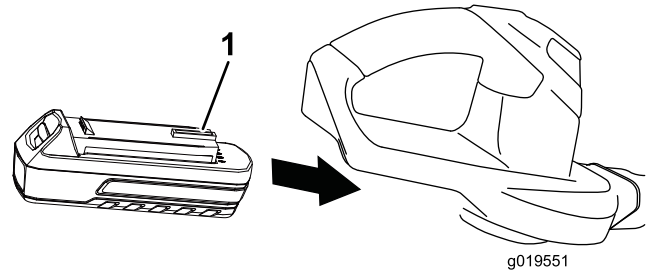

Figure 2
- Align the tongue of the battery pack with the cavity in the handle housing, grasp the handle, and push the battery pack into the handle until the latch locks into place (Figure 2).